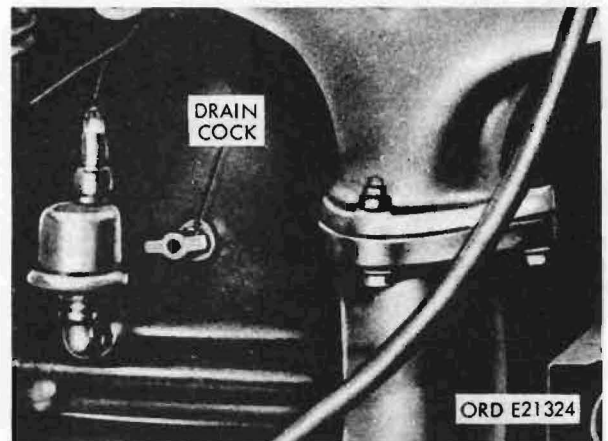

Figure 55. Cylinder block draincock
(40) Cylinder block draincock (fig. 55). This draincock, located on the lower right rear side of the block, is turned left to open and drain coolant from the cylinder block, then turned right to close.